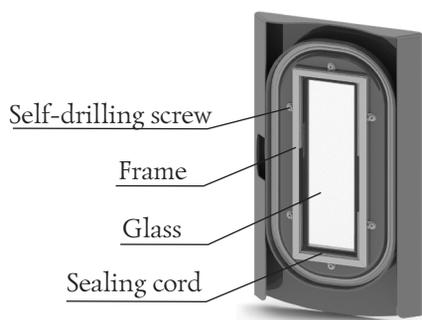

Figure 17. «Battery-Fire» stove door
1. Remove the 6 screws securing the frame (Figure 17).